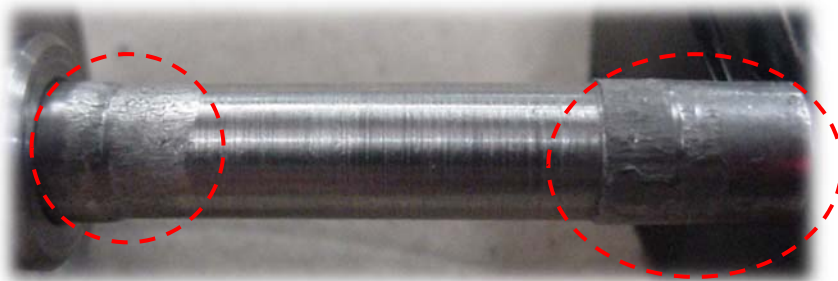

Figure 25: Example of Severe Wear on a Disk Stem
5. Check the portion of the disk stem that slides inside the adjustment screw bore. Verify that its surface is smooth. The surface must not have severe wear. See Figure 25 for an example.